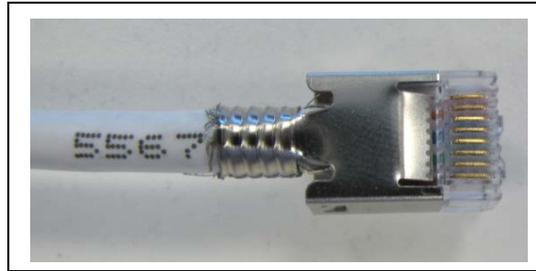

Figure 11. Trim any Braid or Foil
- Trim away any braid/foil and drain wire left extending beyond the end of the plug shield. See Figure 11.